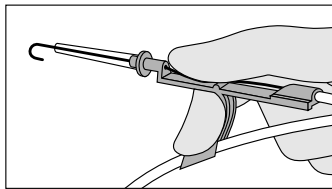

Fig. 3
- Using your thumb, straighten the "J" by retracting the spring-wire guide into the Advancer™ (refer to Figs. 3, 4).